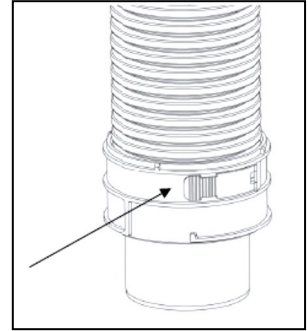

Figure 3 – Mounting the Seal
5. Mount the seal into the lowest whole groove (Fig. 3) and push the flexible liner into the adapter until it stops.